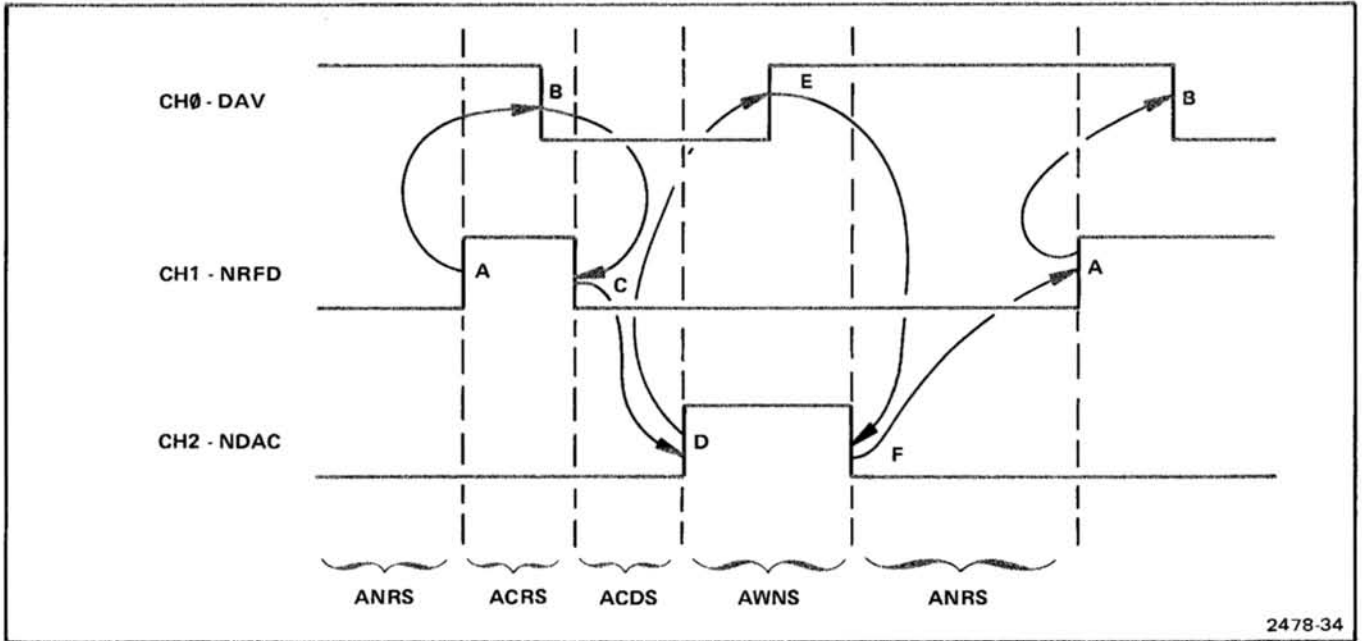

Figure 3-10. GPIB handshake timing diagram.
7. Adjust the sample interval switch and push the Reset button to reacquire data, until the timing diagram on the crt resembles the handshake timing diagram shown in Figure 3-10.
All six states, A thru F, must be in the exact order depicted in Figure 3-10 for the handshake cycle to be working correctly. (Refer to GPIB Overview previously described in this section.) If no handshake is occurring on the crt display, the level of the three lines will indicate what state the handshake is in. For additional information refer to the AH (Accepter Handshake) State Diagram in Figure 3-11 and IEEE Standard 488-1975.
4) Obtain a handshake cycle display as shown in Figure 3-10. The trigger should have occurred on NDAC going high indicating that the listener(s) accepted the decimal point (the ASCII period) on the GPIB.